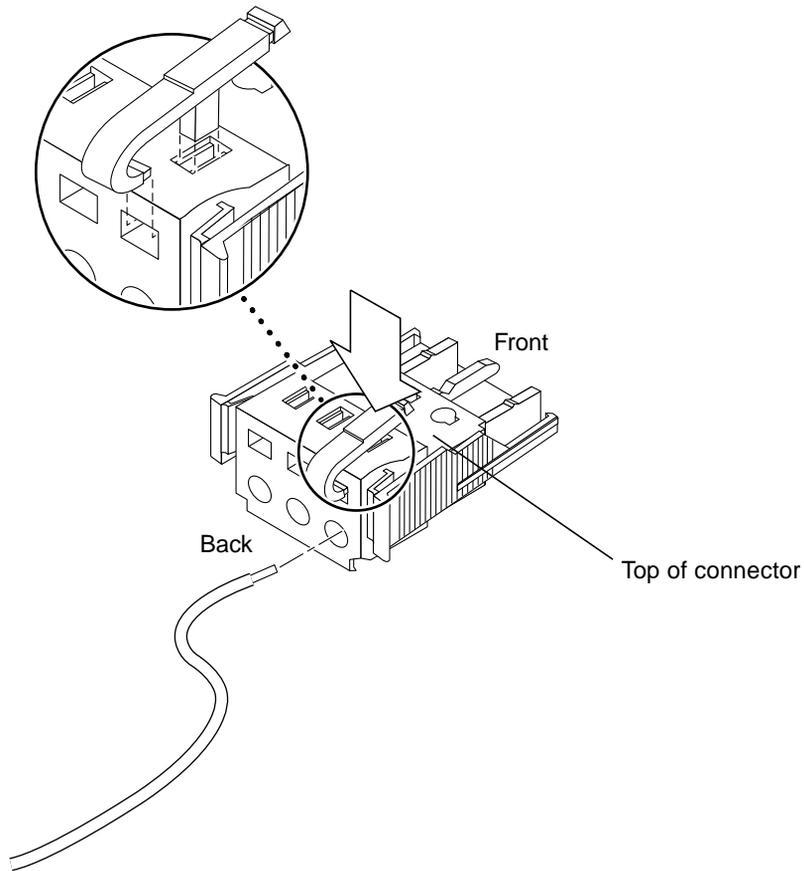
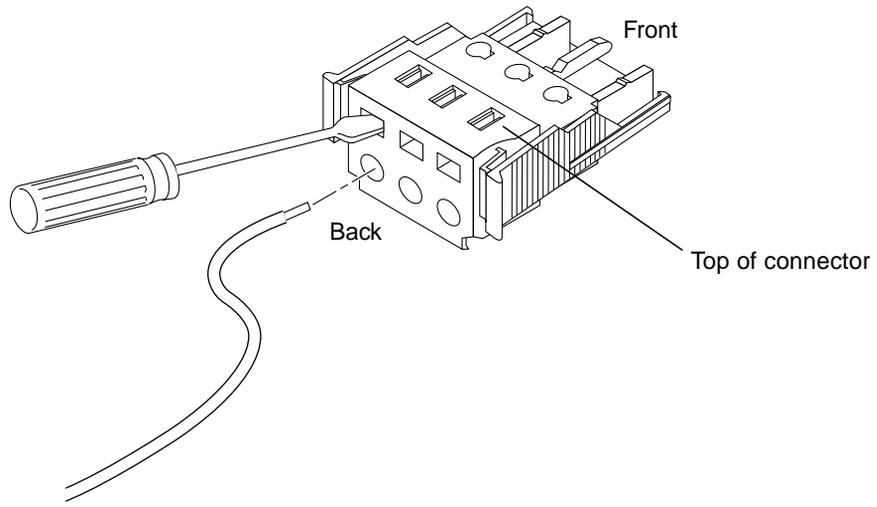

FIGURE 2-7 Opening the DC Connector Cage Clamp Using the Cage Clamp Lever
FIGURE 2-8 Opening the DC Connector Cage Clamp Using a Screwdriver
5. **Use the cage clamp lever to open the cage clamp** (FIGURE 2-7).
6. Alternately, open the DC connector cage clamp using a small flat-blade screwdriver (FIGURE 2-8).
b. Press down on the screwdriver (FIGURE 2-8).
1. Insert the cage clamp lever or a small screwdriver into the slot directly above the wire (FIGURE 2-7 and FIGURE 2-8), and press down.